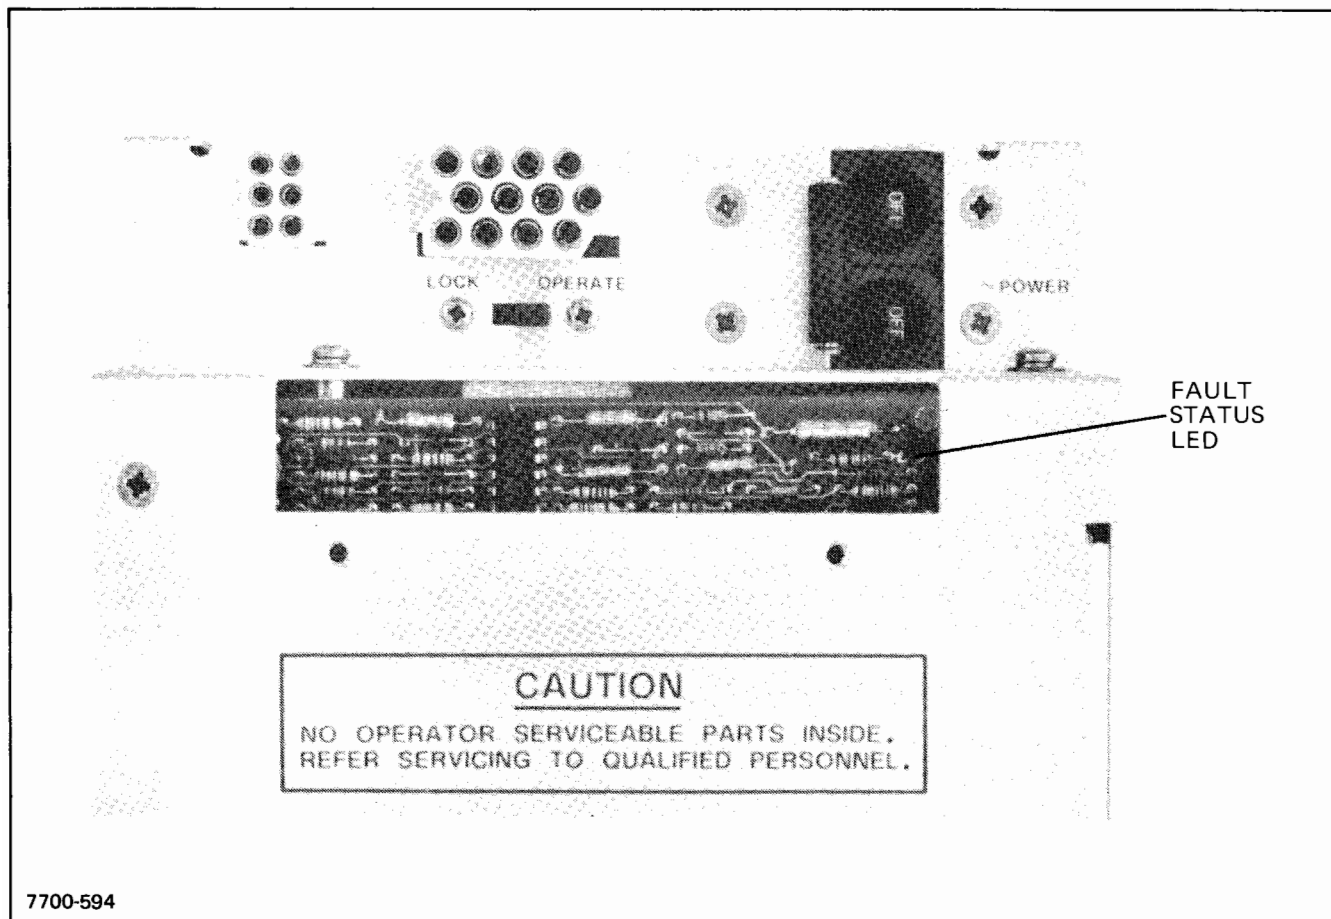

Figure 1-10. HP 2111F and HP 2117F Computer Power Supply Fault Status LED
- c. Check the fault status LED on the front of the power supply. The LED is visible through the hole indicated in figure 1-10.